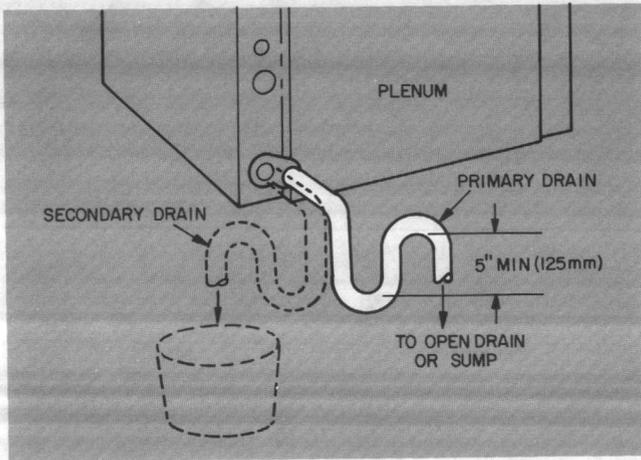

Fig. 8 — Condensate Trap
Step 5 — Make Primary Condensate Drain Line Connection to connection provided on unit (see Fig. 1). Install a trap in condensate line as close to unit as possible. Trap must be at least 5 in. (125 mm) deep and not higher than the bottom of unit condensate drain opening (see Fig. 8). Pitch condensate line to open drain or sump. Minimum recommended drain line size is 7/8-in. (22.22-mm) OD copper tubing or 3/4-in. (26.70-mm) OD galvanized pipe. Insulate condensate drain line(s) located above a living area.